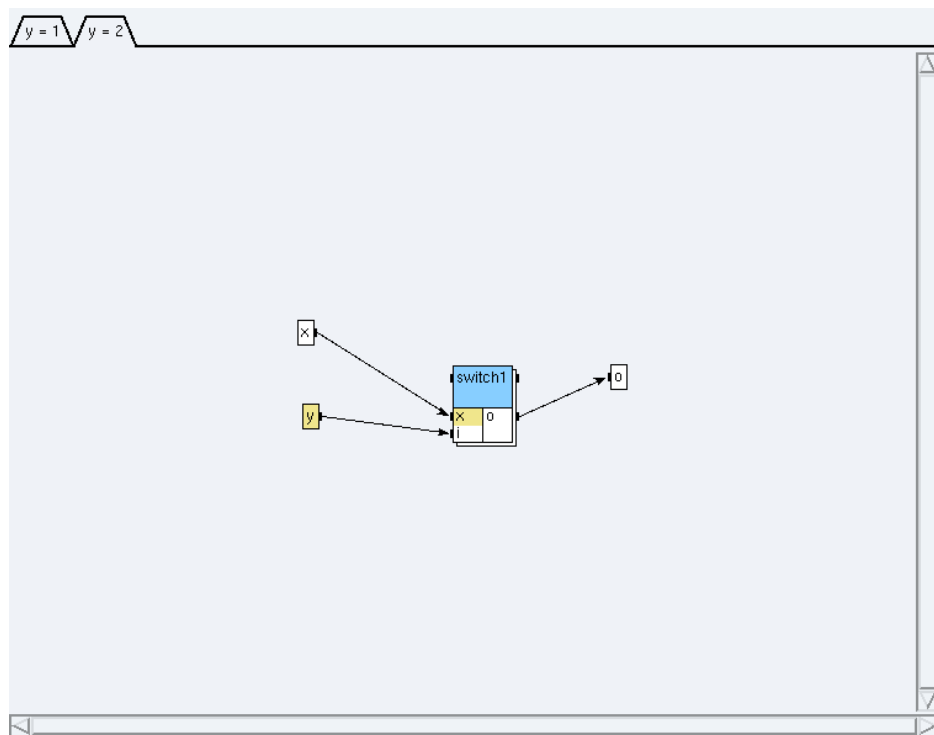

Figure 5.8: Condition  $y=2$
- click on the condition  $y=2$  (cf. figure 5.8) and create a reference `switch1` to the definition **switch1**;